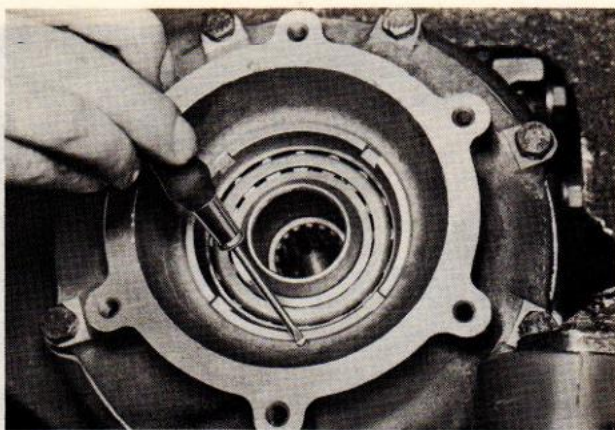

Fig. 26
16. Secure adjusting nuts against further movement by drilling and tapping size M 4 (Fig. 26). Before commencing however, protect the driving gear and bearing from drill chippings with a suitable cover.